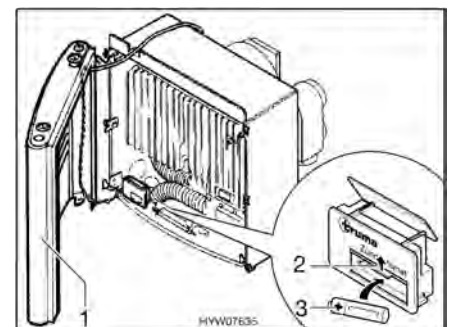

Fig. 73 Heater opened
- Turn the cover (Fig. 73,1) to the side, so that the connecting cables for the hot-air fan as well as the ignition control lamp do not need to be disconnected.
- Push battery chamber cover on the automatic ignition (Fig. 73,2) upward.
- Insert a new battery (Fig. 73,3) of the same type, correctly aligned (+/-), into the battery chamber of the automatic ignition. Only use temperature resistant (+70 °C) and leak-proof Mignon batteries.